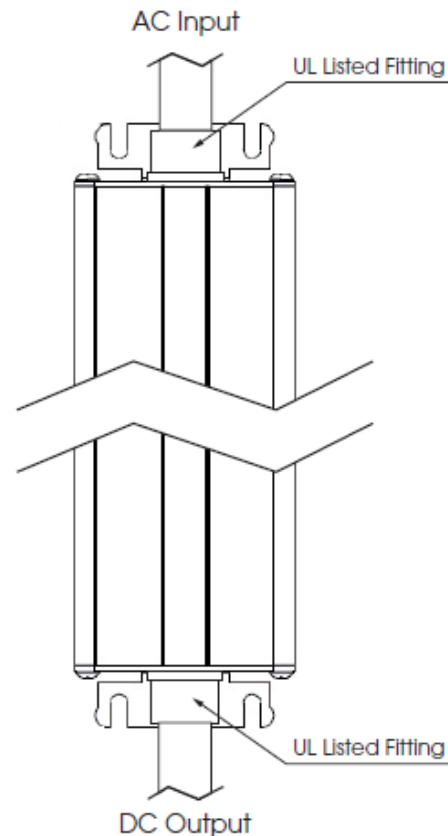

Fig 1
- This power unit is intended to be correctly oriented in a vertical mount position (Fig 1).
- Conduit fittings shall be used; UL listed, threaded on to power supply, provided for connection to the AC circuit (Fig 1).
- Conduit fitting shall be used; UL Listed or equivalent (Fig 1).